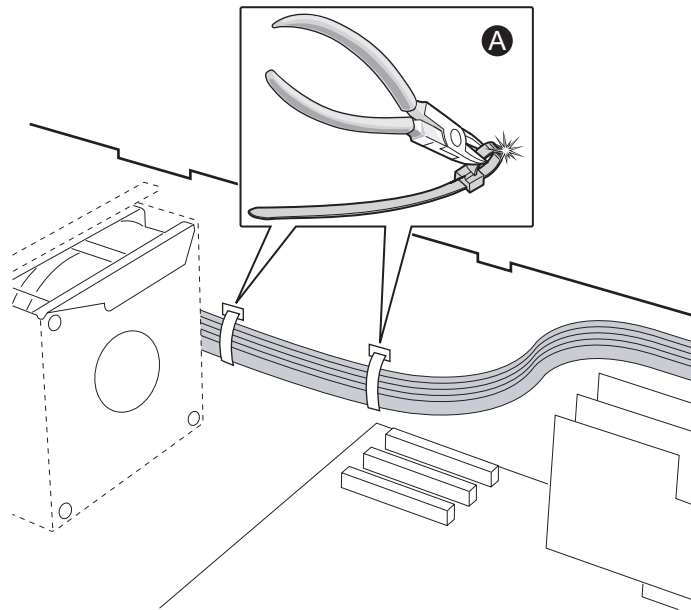

Figure 9. Cutting the Plastic Ties that Bundle the SATA Cables
- A. Cut the plastic cable ties that bundle the SATA Cables. See Figure 9.